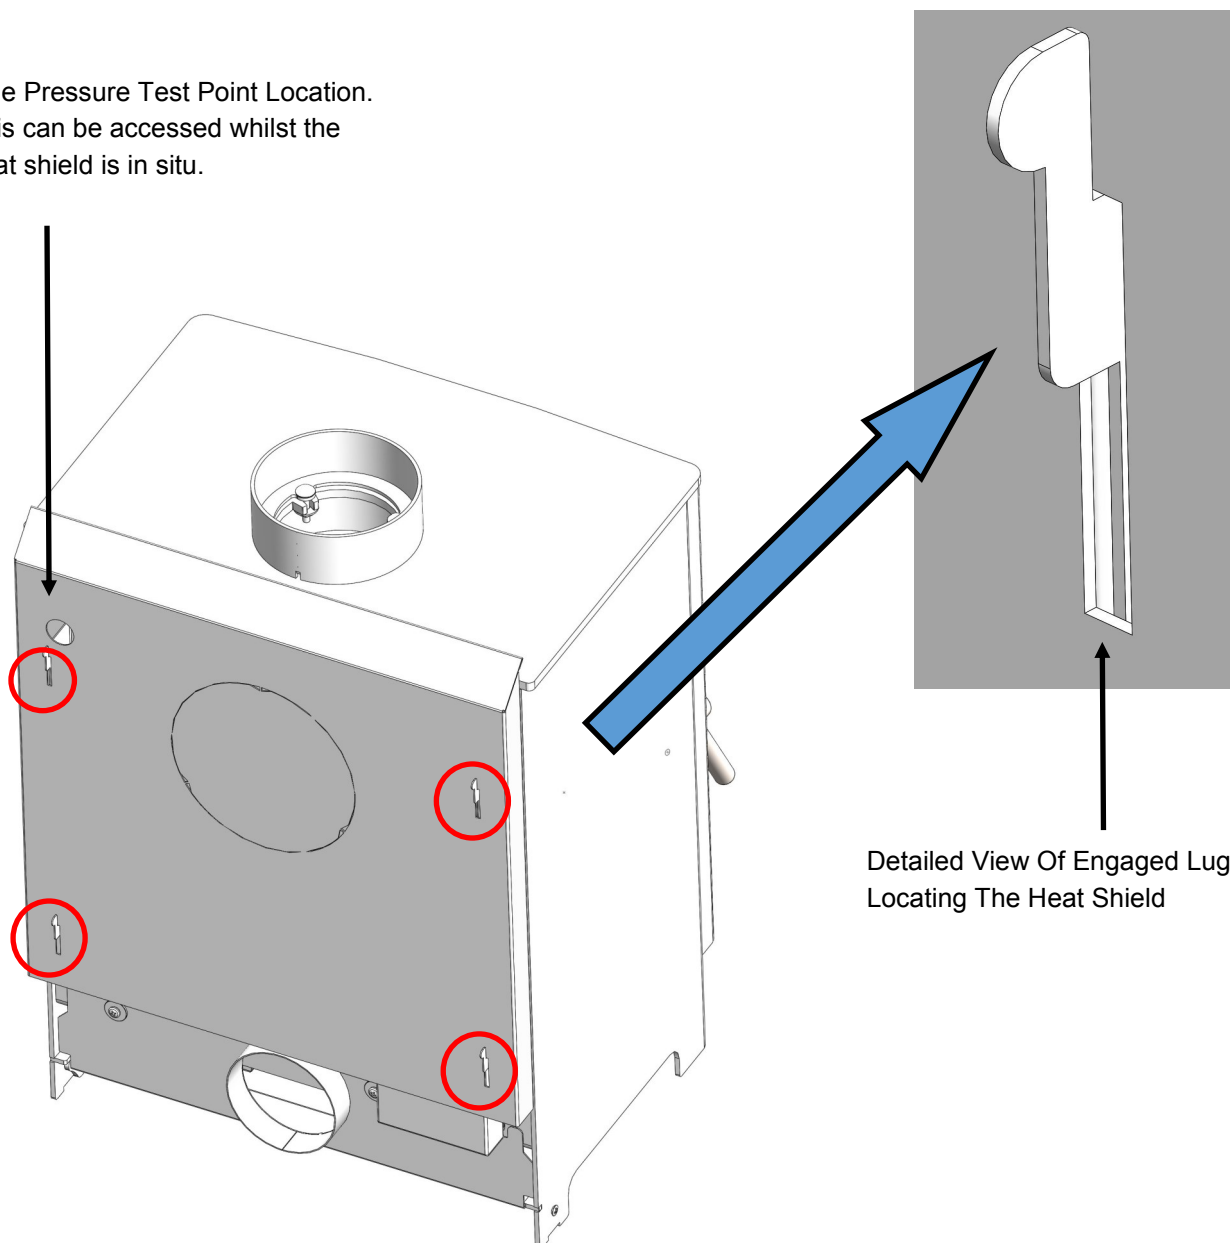

Figure 3. Heat Shield Layout
Step 4 : Take the heat shield and position the mounting slots over the corresponding lugs on each side mounting bracket. Gently engage the lugs and push down, to locate the heat shield onto the mounting brackets as shown in figure 3.